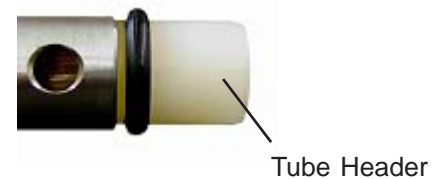

Figure 11
2. Insert eraser end of pencil into one sample port until it rests on tube header face (Refer to Figure 11).